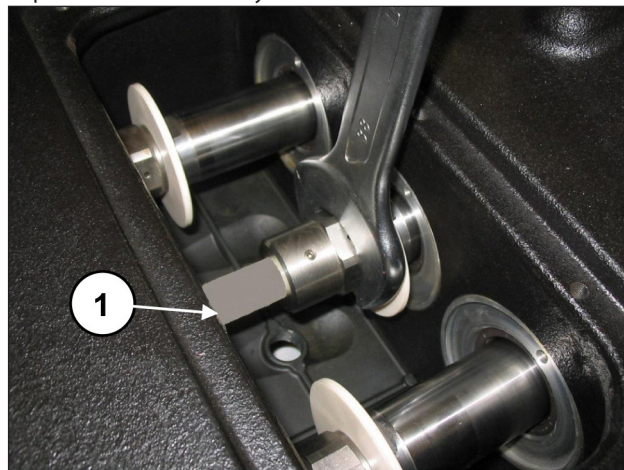
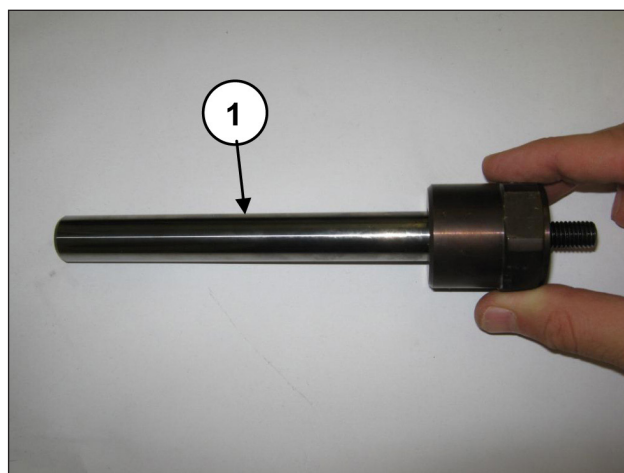

Fig. 108
Fig. 109
Remove the pumping elements with a fork spanner (pos. ①, Fig. 108) and check their state of wear (pos. ①, Fig. 109). Replace them if necessary.